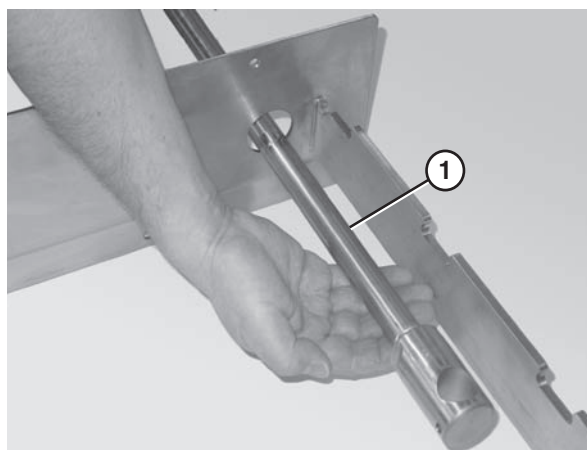

Figure 28
1. Slide the tip up shaft (**Figure 28, item 1**) through the designated slots in the frame.